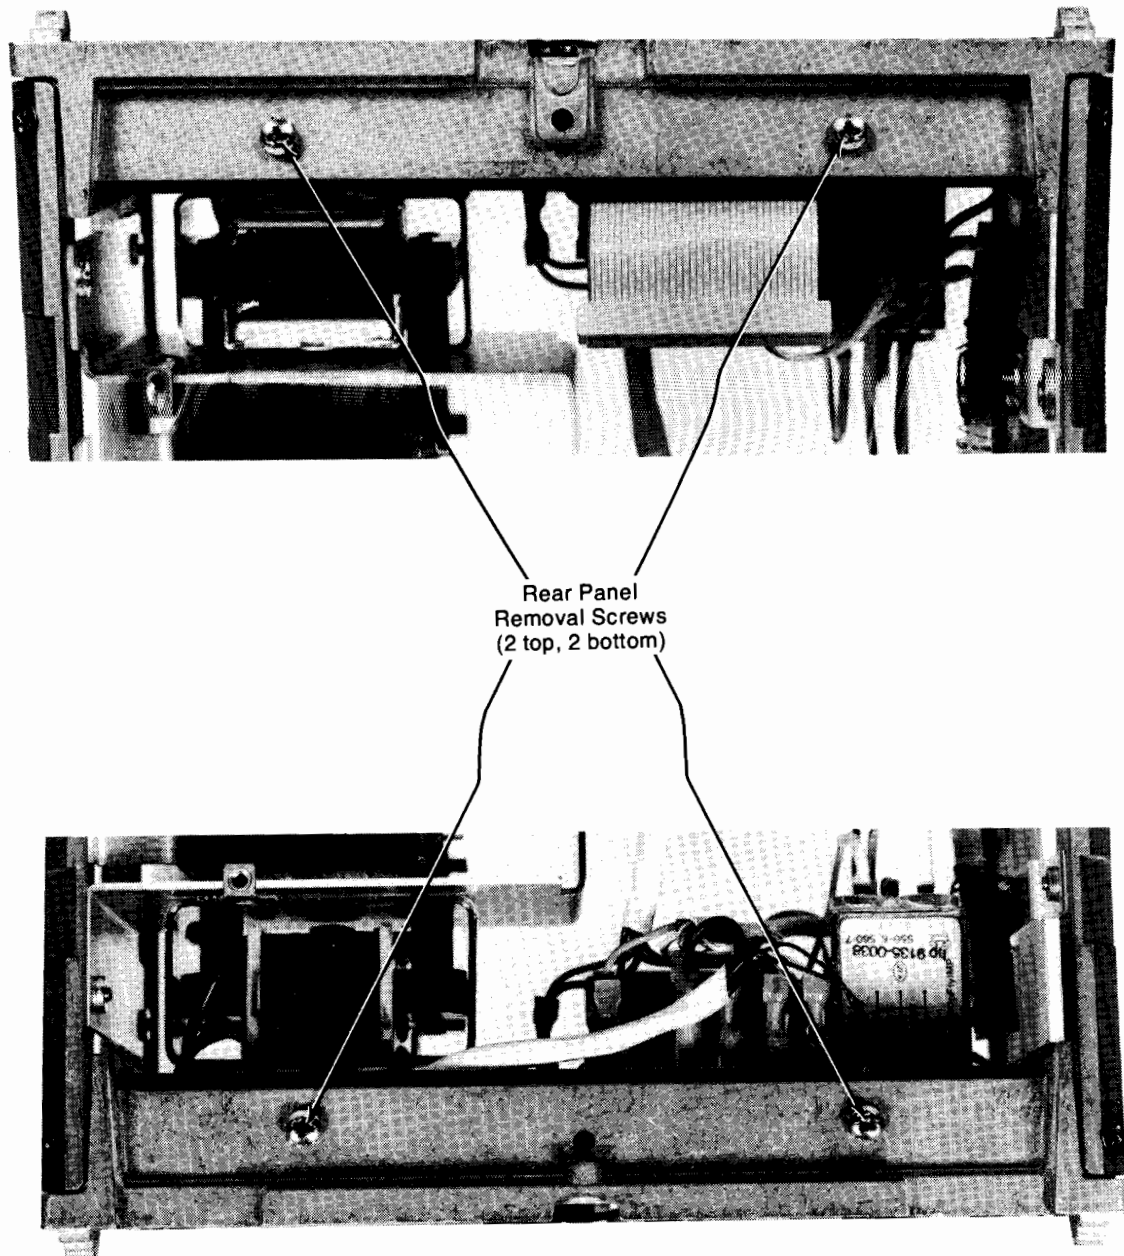

Figure 4-3: Rear Panel Assembly Removal
The rear panel can be removed by removing the top and bottom panels and four (4) retaining screws as shown in Figure 4-3. The terminals must be disconnected from the voltage switch-board.